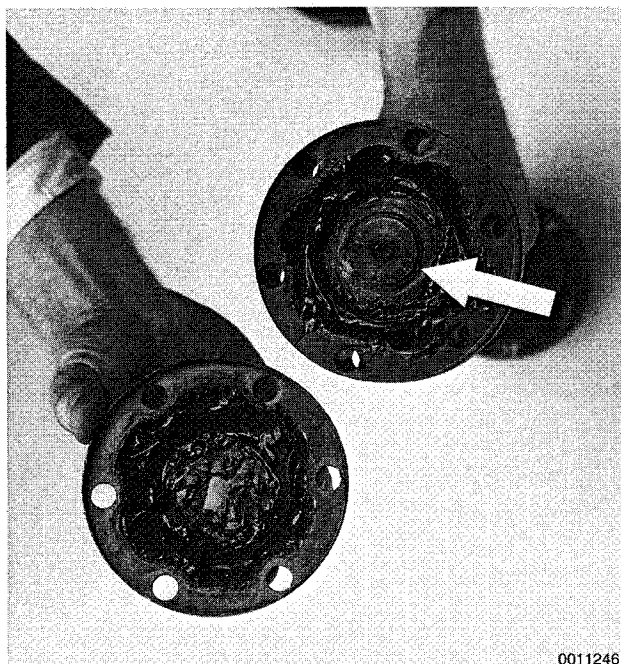

Fig. 14. Dust cover shown removed from inner CV joint. Clean away grease and remove circlip (arrow) from shaft end.
3. Lift off dust cover from inner CV joint and remove circlip retaining joint inner hub to axle shaft. See Fig. 14.